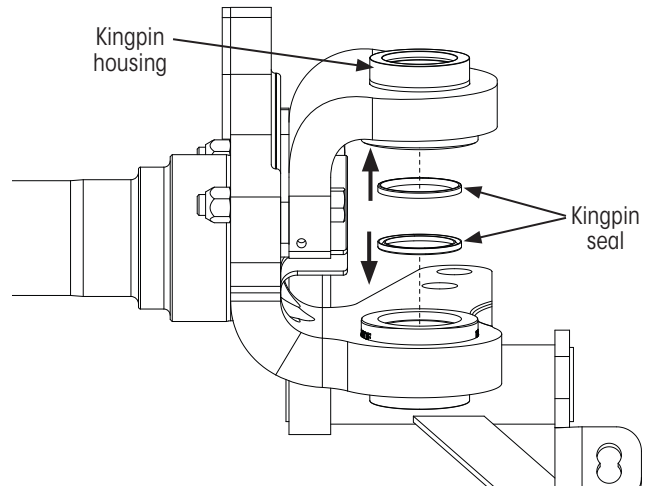

Figure 28: Inserting kingpin seal
8. **Correctly position** new kingpin seals, as shown in Figure 28, with lip facing away from kingpin housing and **press** them in place until fully seated.